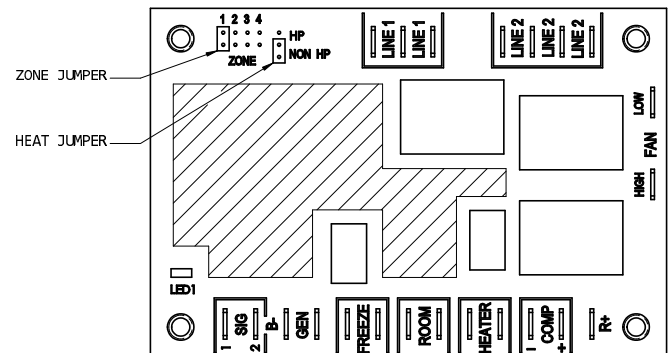

FIGURE 2
2. Set the "zone" jumper to the proper zone position for the particular position the air conditioner or heat pump will be in the coach (**Refer to Figure 2 – Zone 1 is shown**). Zones should be numbered from the front to the back of the coach with Zone 1 in front.
3. Set the "HP"/"NON HP" jumper to "HP" if the unit is a heat pump or to "NON HP" if the unit is not a heat pump (**Refer to Figure 2 – Non HP is shown**).